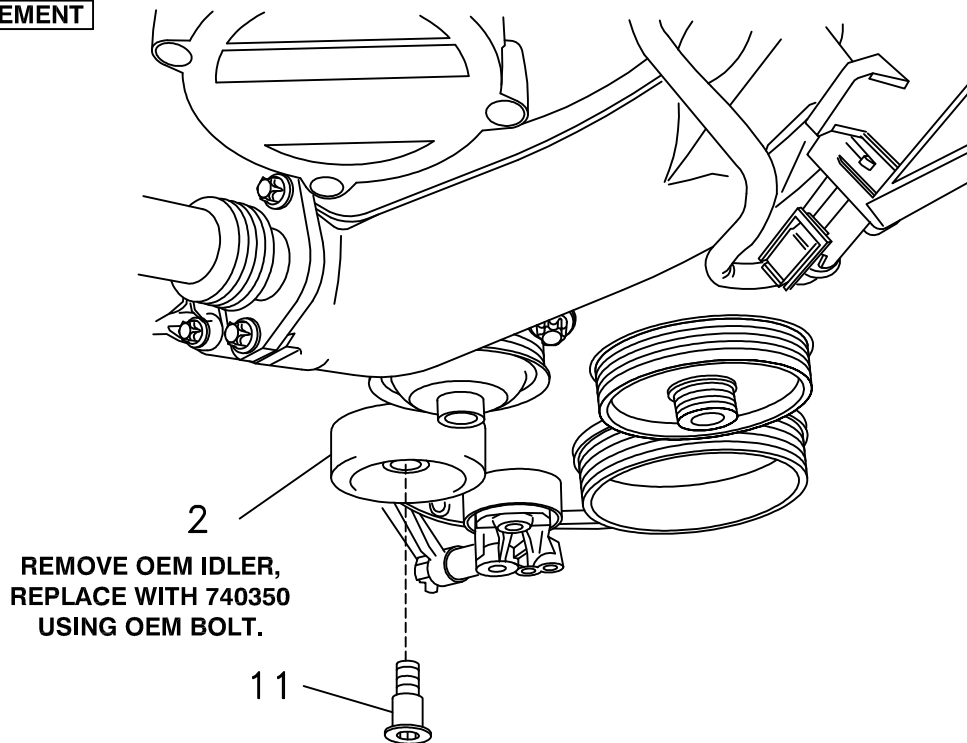

FIG. 3
6. Attach the pump plate (1) to the engine at Locations A and B using two M10 x 110 bolts (5), two small (.81" O.D.) 3/8 flat washers (6), two M10 lock washers (7), and two M10 nuts (8).
7. Attach the pump (7) to the back of the footmount (2) using two large (1.00" O.D.) 3/8 x 1 1/4 bolts (11) and two 3/8 flat washers (10).
9. Install the new belt (12) as shown in Fig. 3.